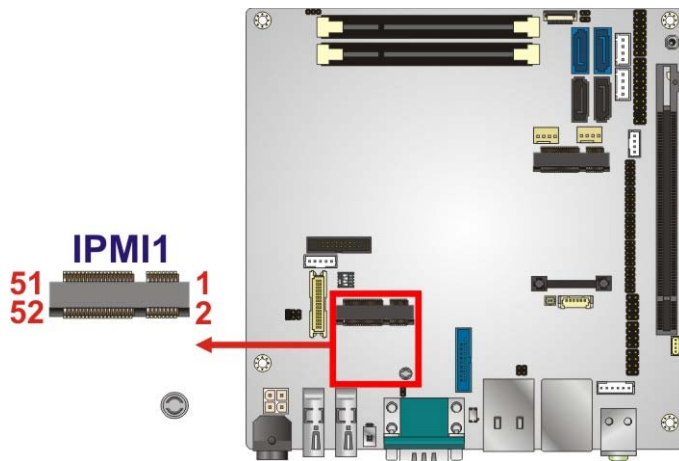

Figure 3-11: iRIS Module Slot Location
- CN Location:** See **Figure 3-11**